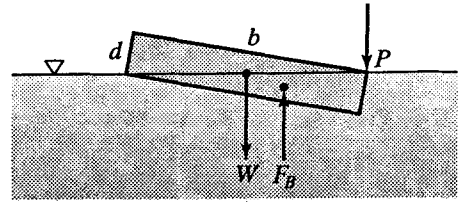

Figure P3.28
3.28 A rectangular block of uniform material and length  $L = 3$  ft, width  $b = 1.25$  ft, and depth  $d = 0.20$  ft, is floating in a liquid. It assumes the position shown in Fig. P3.28 when a uniform vertical load of  $1.30$  lb/ft is applied at  $P$ . (a) Find the weight of the block. (b) If the load is suddenly removed, what is the righting moment before the block starts to move? (Hint: Refer also to Fig. 3.19.)